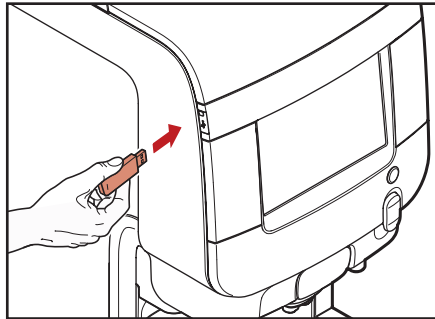

Fig. 6.1 - Insert operator USB key
- Insert the operator USB key (fig. 6.1)